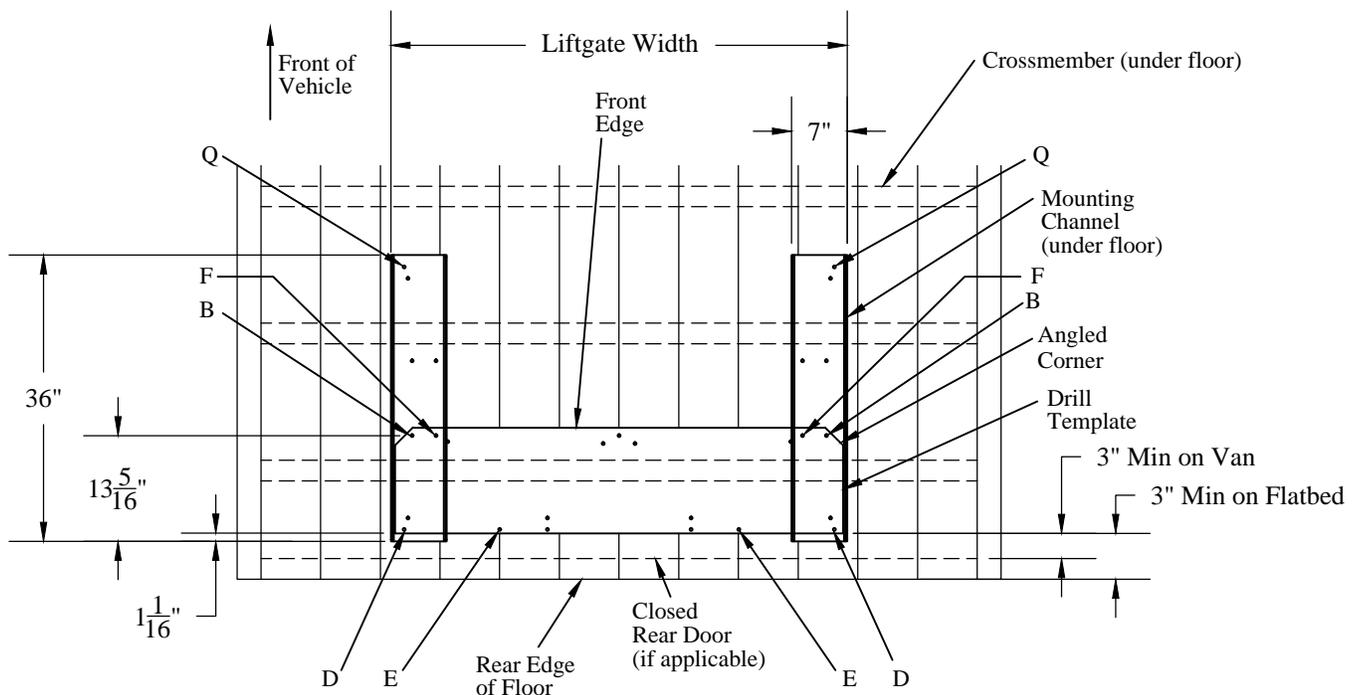
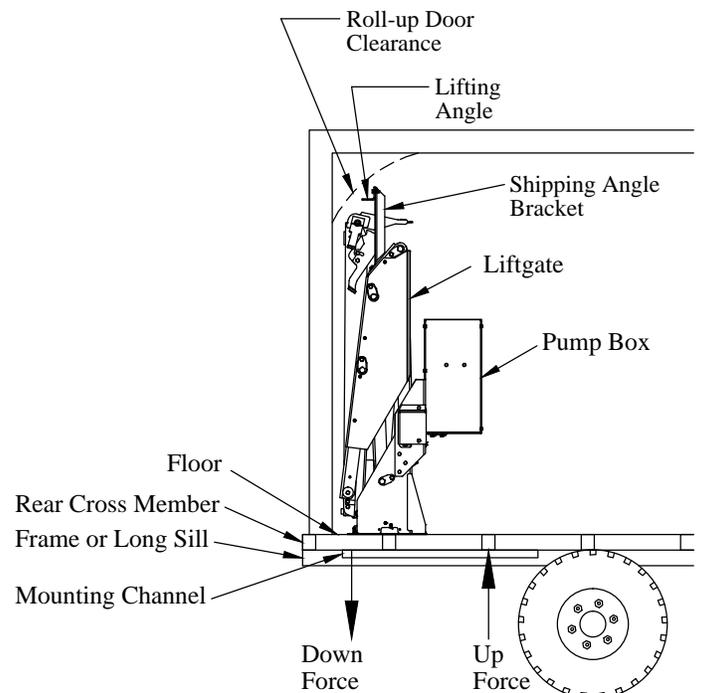
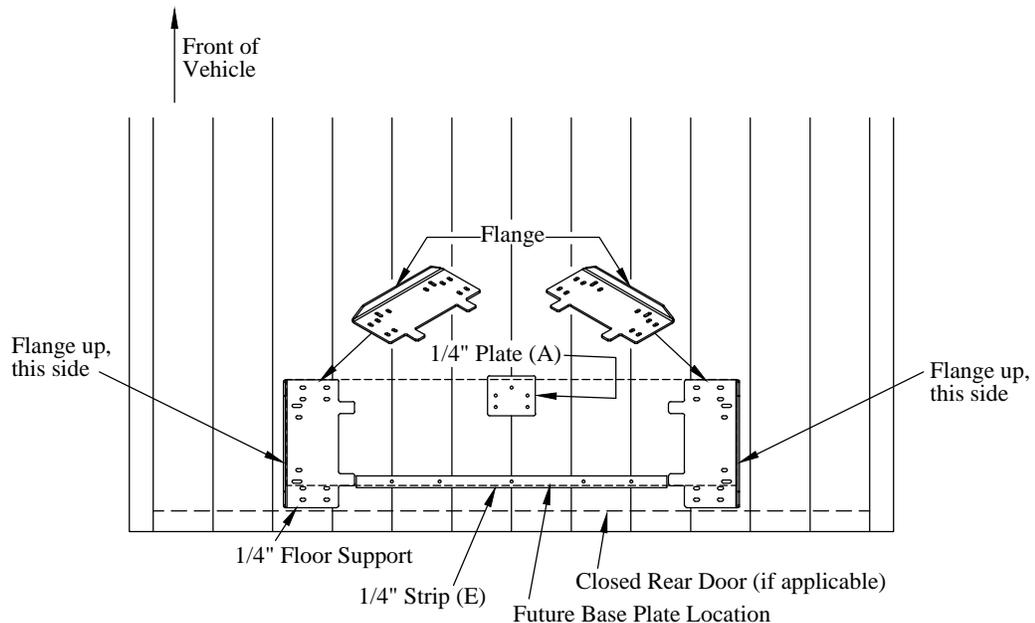

Figure 4: Liftgate location (top view).
Figure 6: Liftgate positioning.
Figure 8: Floor support locations (top view).
- Liftgate base plate is at least 3" from inside of door(s) or rear edge of flatbed to allow space for the floor supports (Figure 4) and (Figure 8).
- Roll up door will clear the top of the stored liftgate (Figure 6).
- Bolt locations are free of obstructions (Figure 4).
3. Verify that the selected location provides the following structure (Figure 4) and (Figure 6).
1. **Position** the 1/4" floor supports on the vehicle floor (Figure 8).
2. **Position** the 1/4" strip between the floor supports along the "E" locations (Figure 8).
3. **Position** the 1/4" plate at the "A" location (Figure 8).